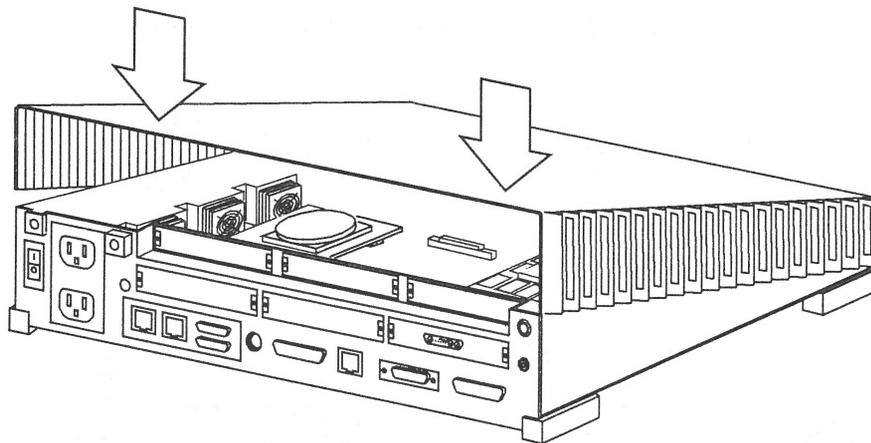

Figure 3-17 Pushing Down on the Corners of the SPARCstation 10 Cover
1. Hold the cover at an angle, as shown in Figure 3-17, and gently guide the hinge tabs on the cover into the tab slots on the front of the system unit.